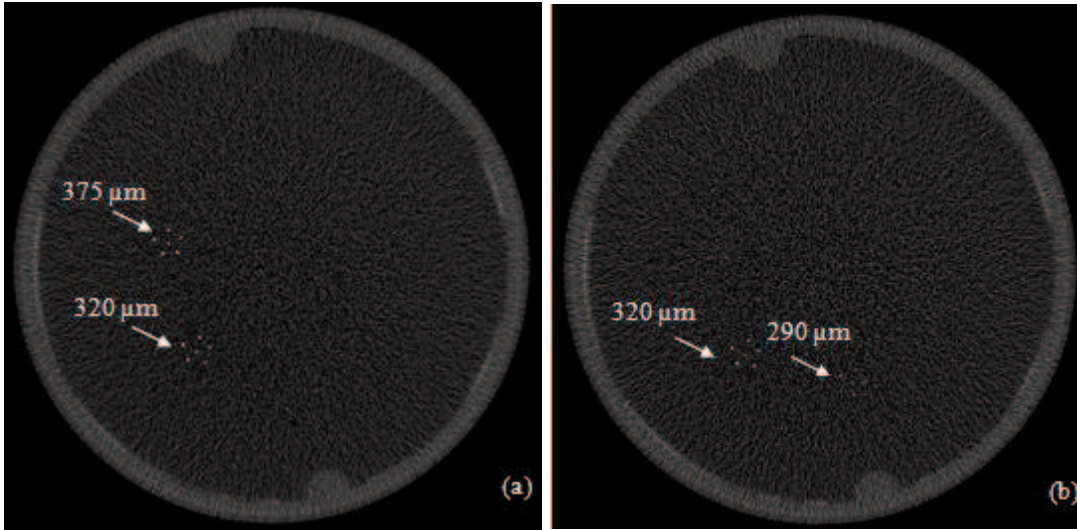

Figure 17.7-1: Calcification specks
4. Carefully view the images with the room light lowered. Since the calcification specks may not all be in the same frame, the reconstructed images should be examined slice by slice to check for the complete visibility of each speck. See Figure 17.7-1.